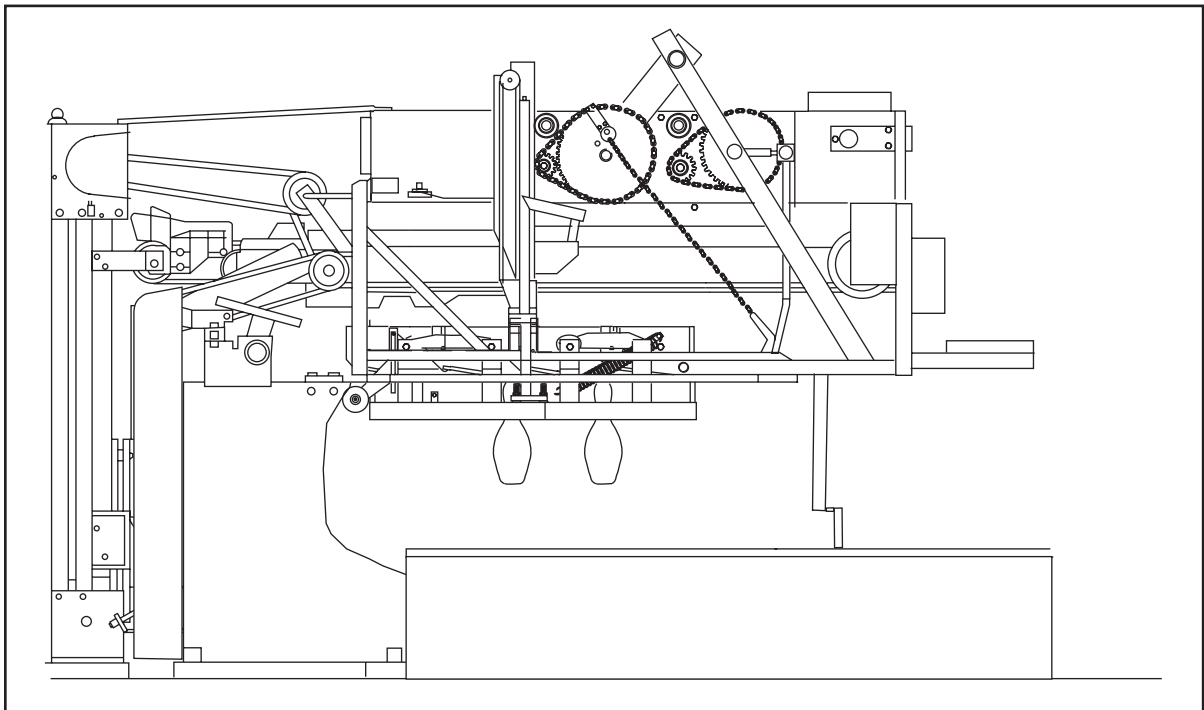

Figure 1-13. Spotting Tongs Closed - Picking Up Pins.
- B. Pick up standing pins to allow the sweep to clear the dead wood. *Figure 1-13.*